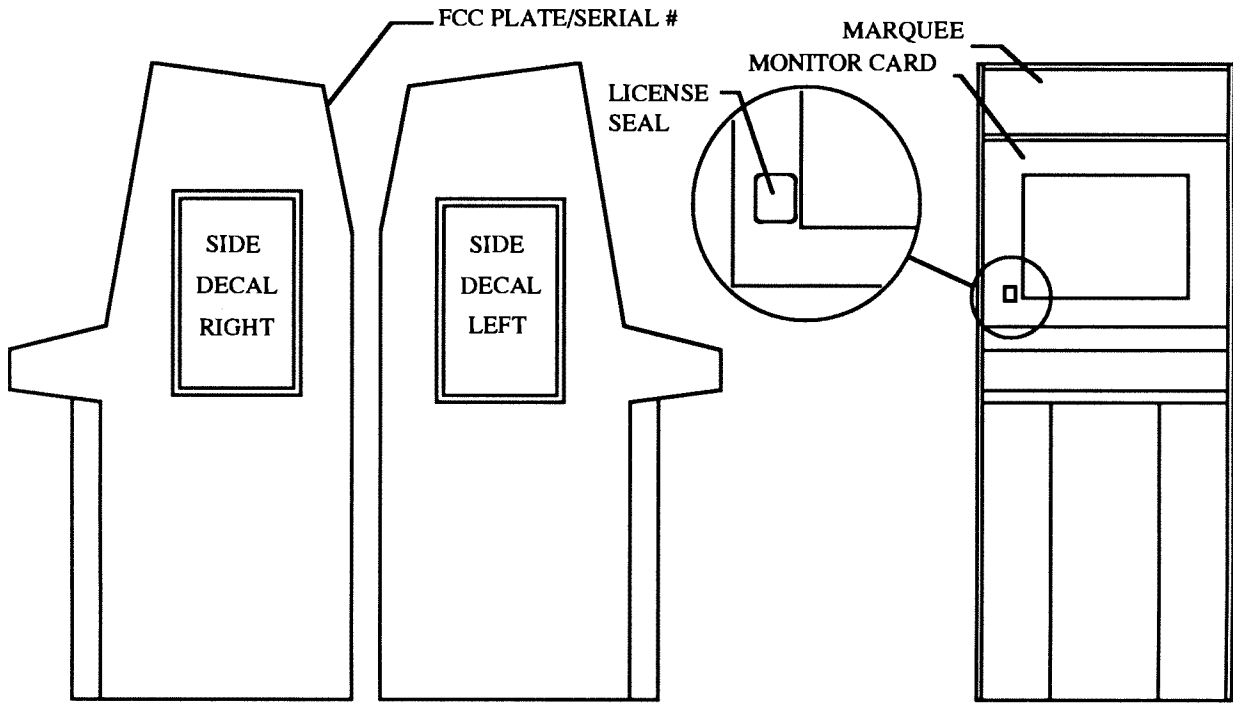

Figure 1
36. Locate the Kit **SERIAL NUMBER STICKER** and **FCC PLATE**. Install on the rear of the game cabinet. (see figure 1)